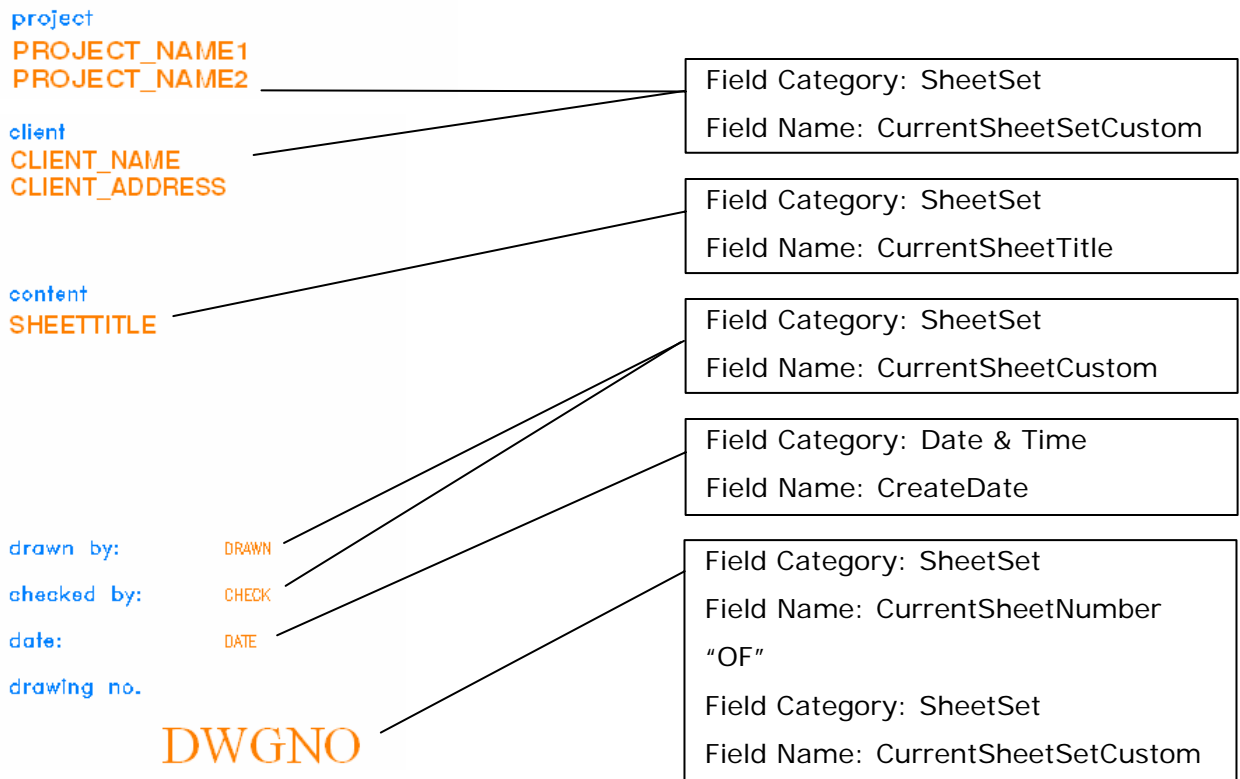

Figure 4.
- Select the field as indicated in Figure 4.